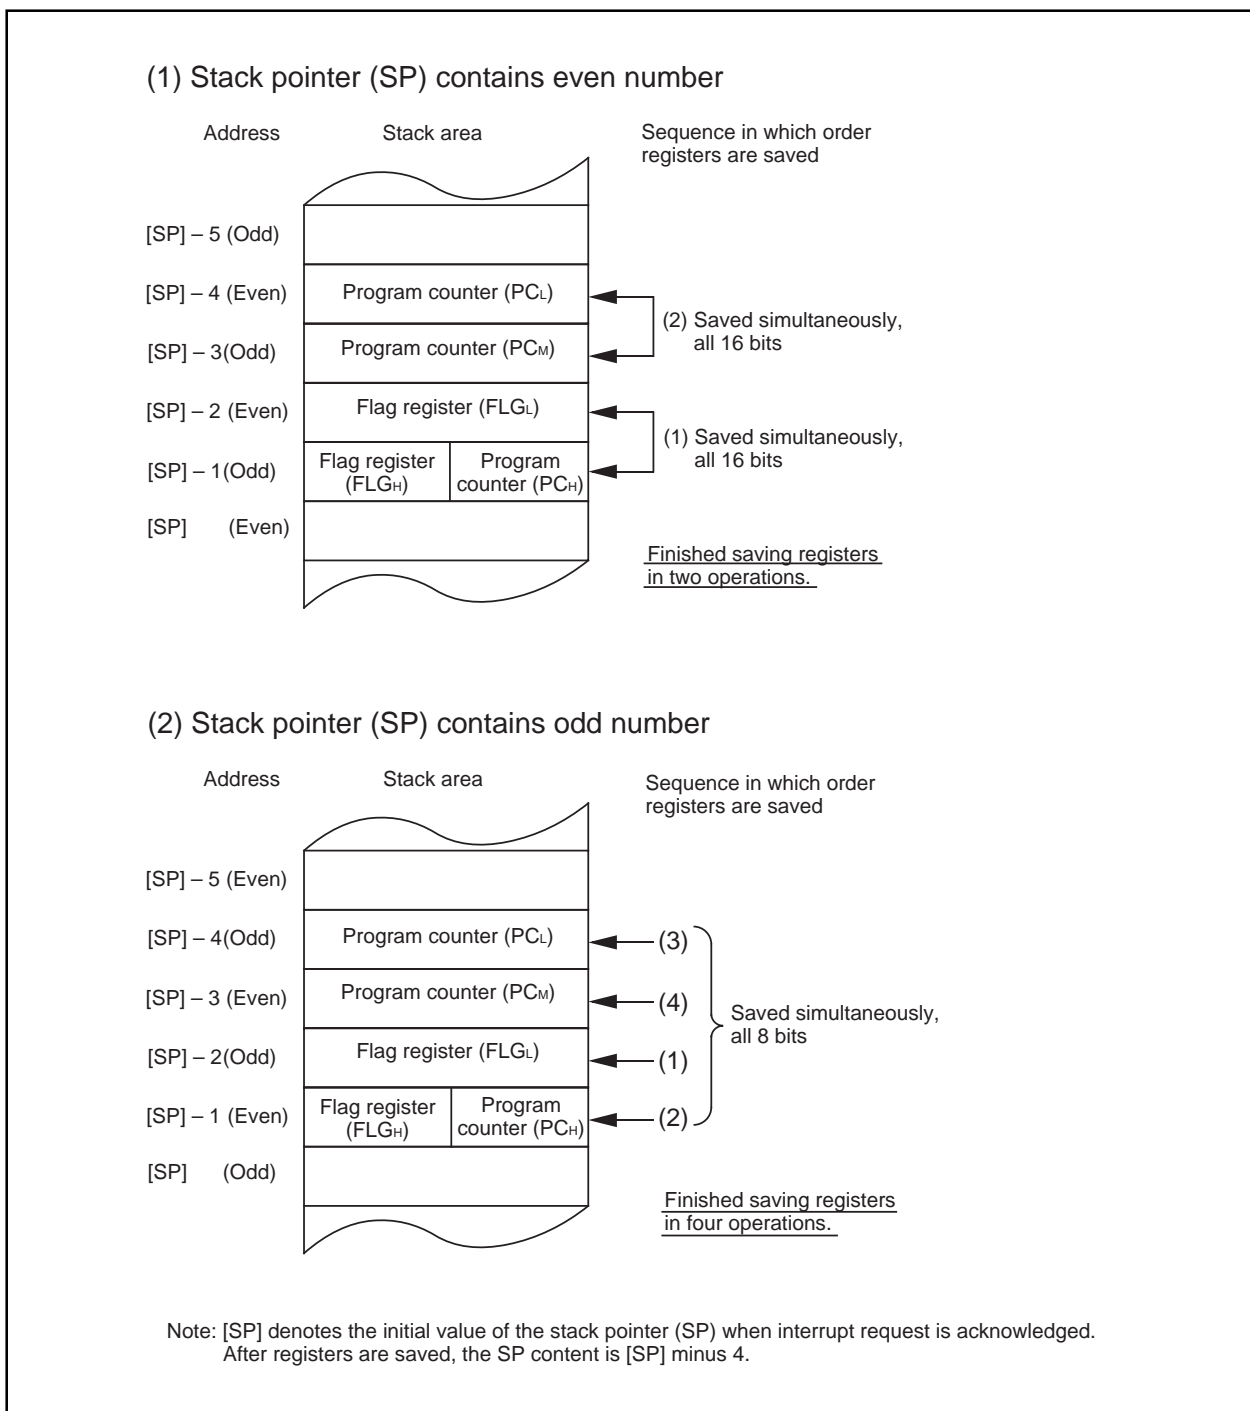

Figure 1.13.7. Operation of saving registers
The operation of saving registers carried out in the interrupt sequence is dependent on whether the content of the stack pointer, at the time of acceptance of an interrupt request, is even or odd. If the content of the stack pointer (Note) is even, the content of the flag register (FLG) and the content of the program counter (PC) are saved, 16 bits at a time. If odd, their contents are saved in two steps, 8 bits at a time. Figure 1.13.7 shows the operation of the saving registers.